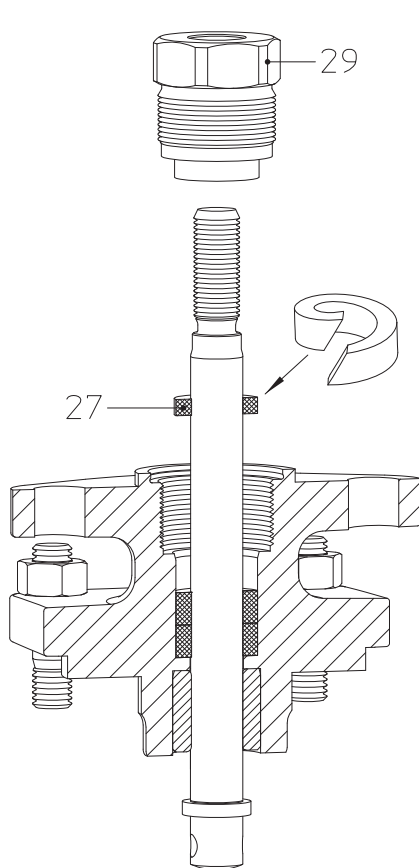
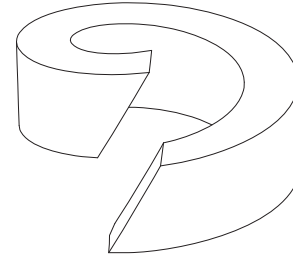

Fig. 10: Stuffing box packing DN15-100
Fig. 13: split packing ring
*Refer to item 10.0 and 11.0 before dismantling the valve.*
- Insert new packing ring (pos. 27) as shown in Fig. 10 - Fig. 13.
If a split packing ring is used, cut with a chamfer as shown in Fig. 13.